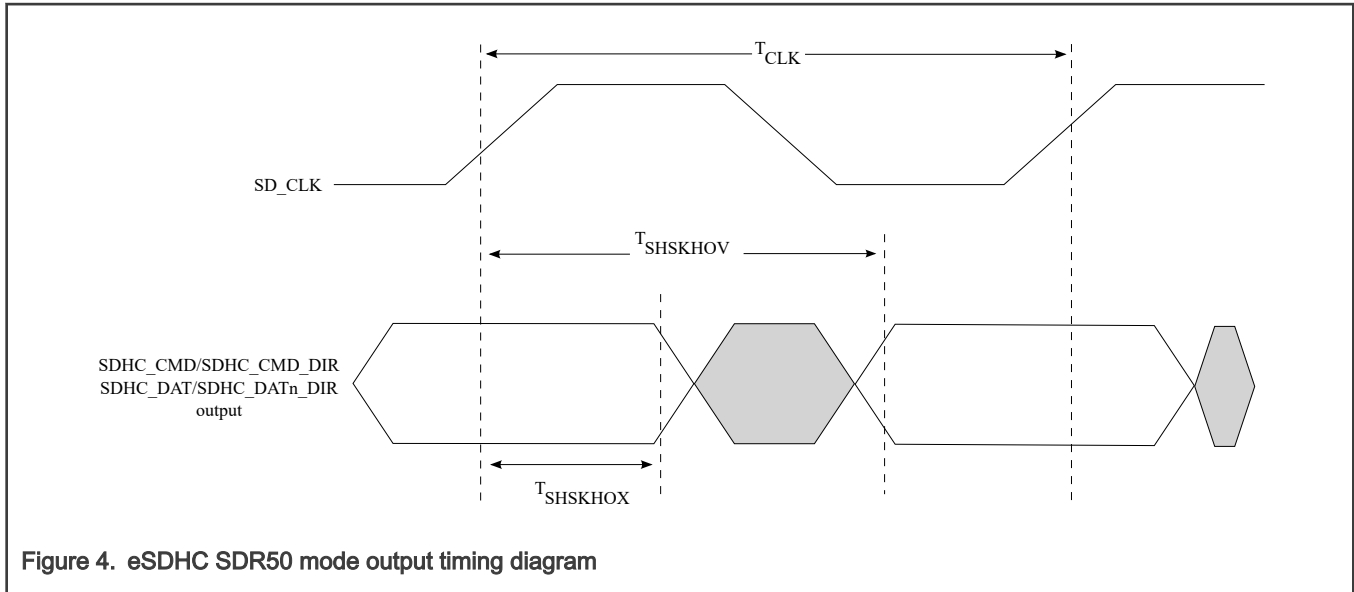

Figure 4. eSDHC SDR50 mode output timing diagram
- See Figure 4
Figure 4 provides the eSDHC output timing diagram for SDR50 mode.